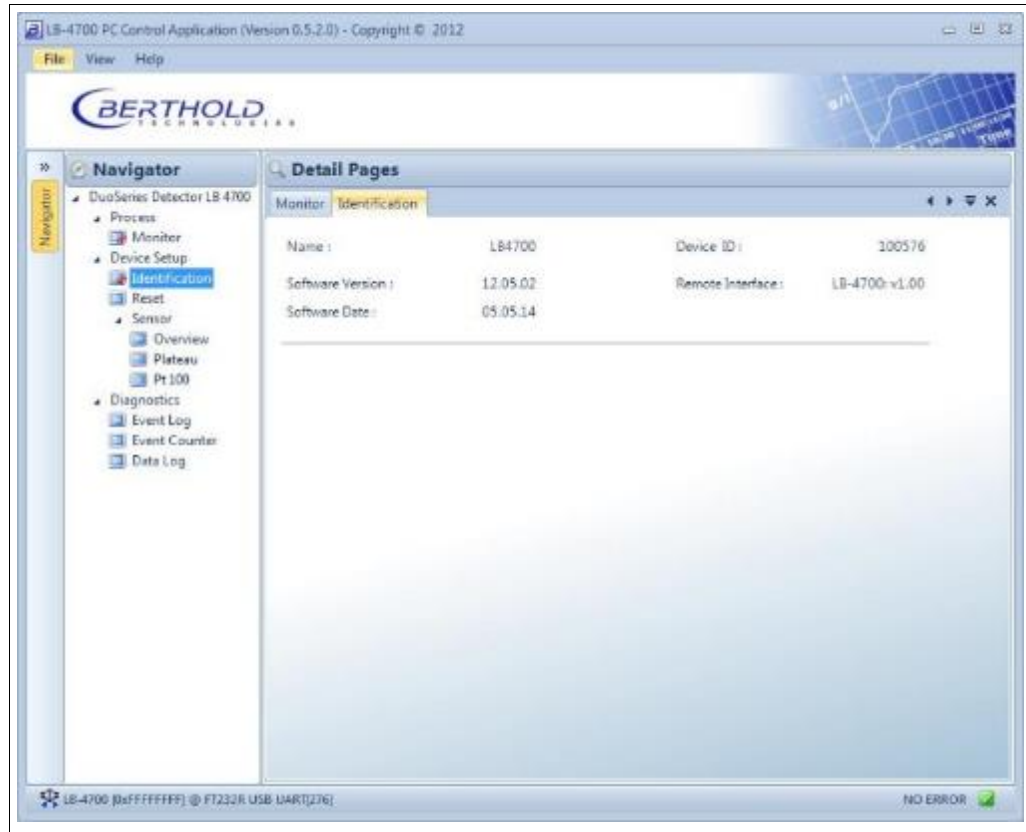

Fig. 33 Device Setup | Identification
1. Click on the button <Set ...>. (Fig. 33, item 4), to make changes to the date and time.